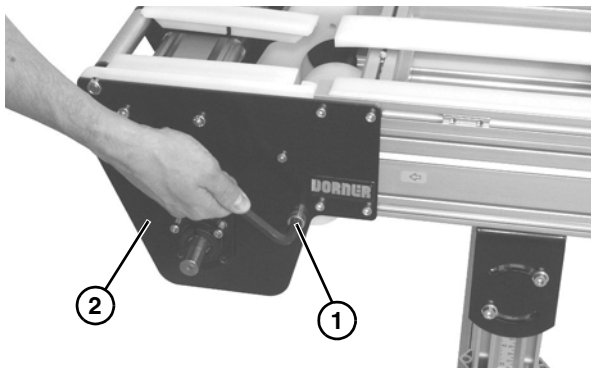

Figure 39
2. Remove socket head bolt (**Figure 39, item 1**) on each side of drive tail assembly (**Figure 39, item 2**).